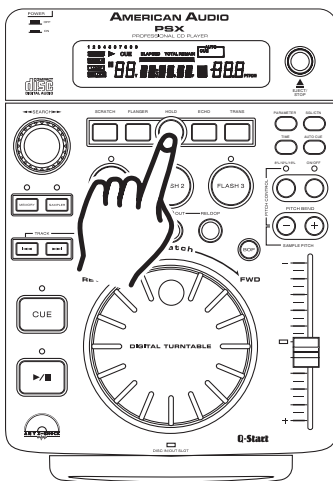

Figure 50
HOLD BUTTON: Use the *HOLD BUTTON* (2) to lock your customized parameters. If the hold button is not activated any changes to your parameters will be momentary. To activate the hold function press the *HOLD BUTTON* (2) as in figure 50. When the hold function becomes activated, the hold button will begin to glow blue.